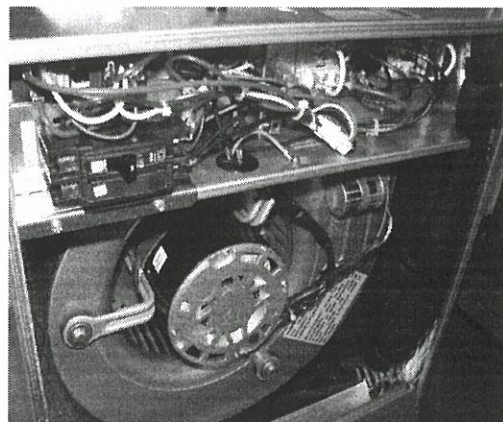

Fig. 4 - Electrical connections.
6. Secure the bracket to the cabinet mounting rail with screws provided. Use wire ties to fasten loose wires around the bracket area. All excess wire needs to be routed away from sharp edges (see fig. 4).
4. For electric heat installations connect the supply power to the terminal block or circuit breaker supplied with the heater (see fig. 4).
5. Connect the 6-pin plug to the corresponding connector in the air handler (see fig. 4)
7. **Check that air flow across heater is at or above minimum recommended fan speed (see fig. 4 or 5). Refer to base instructions for Air Flow Data Tables and adjustment of Fan motor speed.**